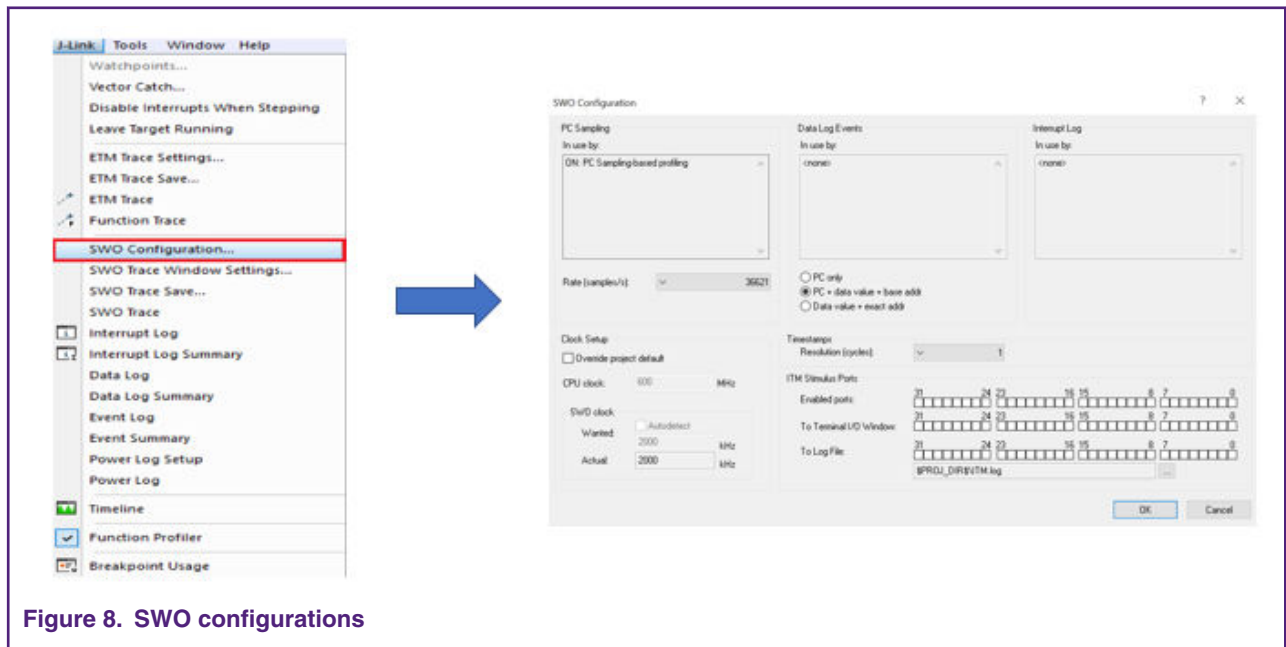

Figure 8. SWO configurations
1. Connect the J-Link to the target board, MIMXRT1060-EVK, and click the **J-Link** to configure the SWO, as shown in Figure 8. on page 11.